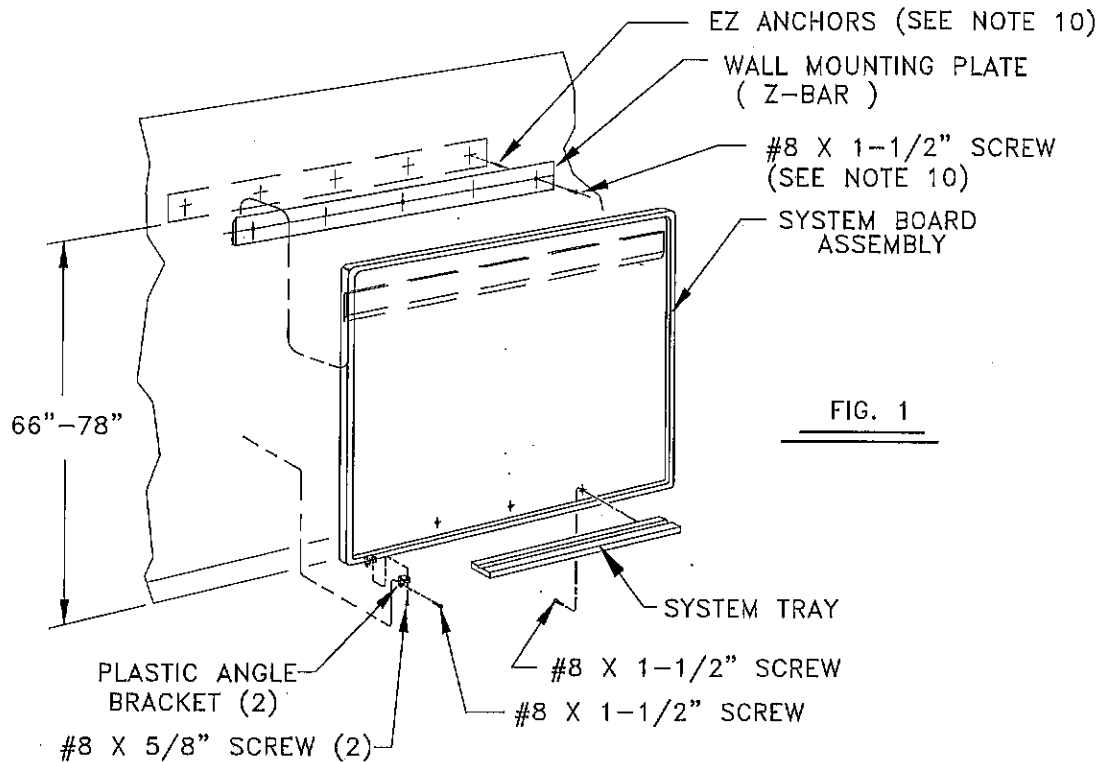

FIG. 1
2. ALIGN THE BOTTOM EDGE OF THE MOUNTING PLATE (Z-BAR) WITH THIS LINE (SEE FIGURE 1)
3. ATTACH TRAY TO SYSTEM BOARD USING SUPPLIED SCREWS. (#8 x 1") (SEE FIGURE 1)